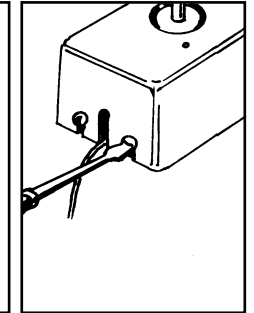

Figure 7
5. Loosen two screws from end of base plate and remove thermostat cover (see Figure 7).